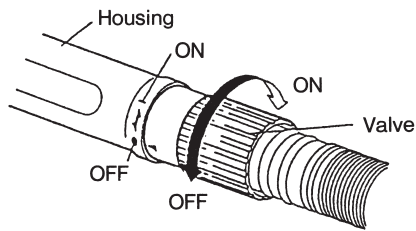

Fig. 7
- **For AL-55 (Fig.7)**
Adjust the motor speed according to the purpose of use. (Fig. 7)